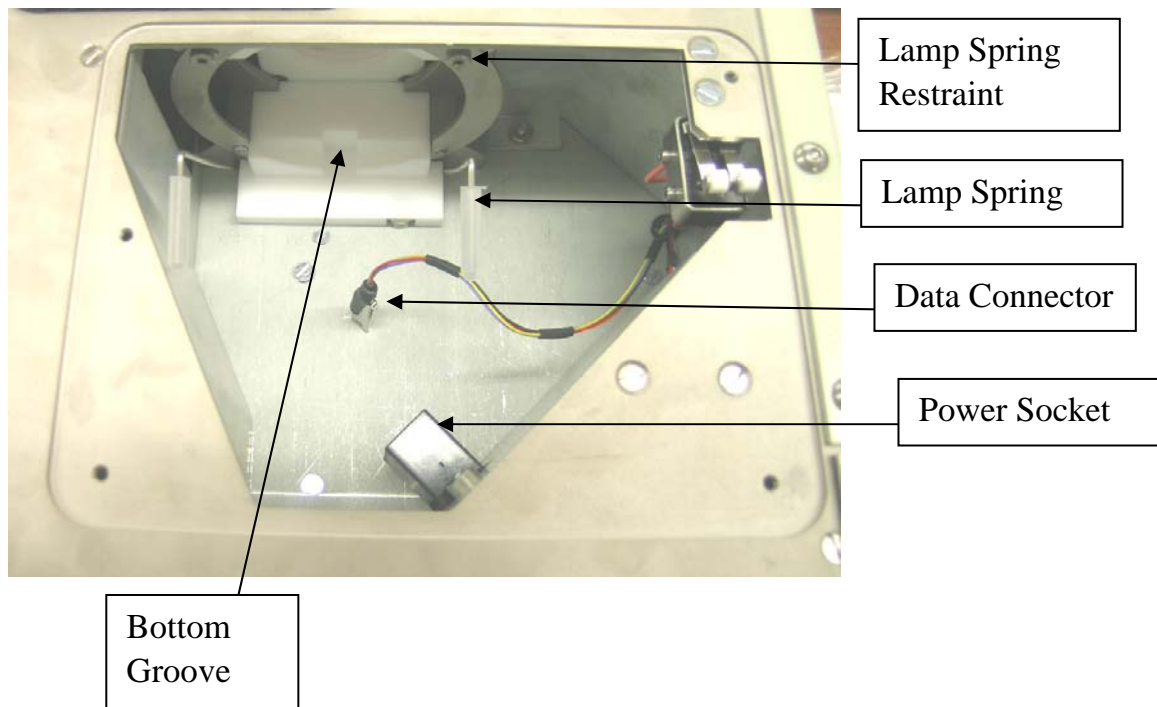
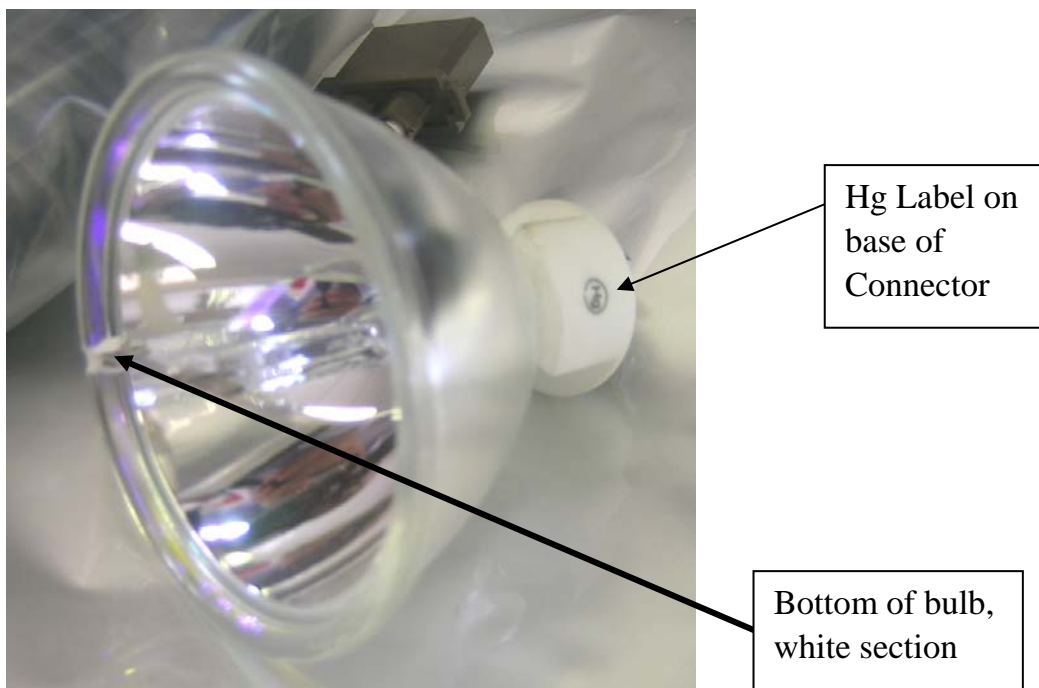

Figure 4.1c: Bulb Housing.
Figure 4.1d: Lumen Bulb.
6. Locate the bottom of the bulb (as indicated in figure 4.1d below) into the groove in the bottom (lamp house clamp Figure 4.1c) of the lamp housing.